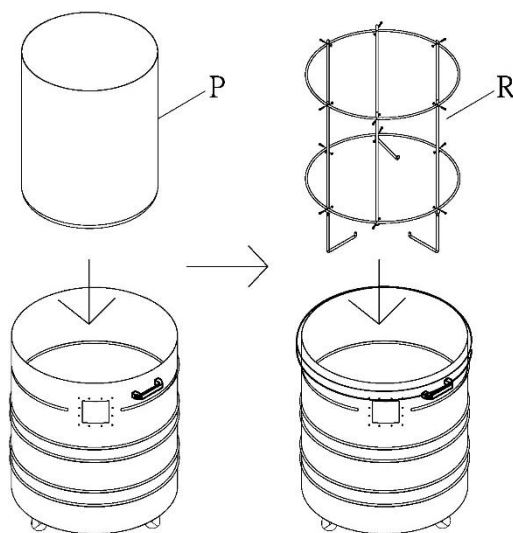

Figure 14
19. Place drum collection bag (P) into drum with its top edge wrapped around top edge of drum. Place bag frame (R) inside bag and press all the way down. See Figure 14.